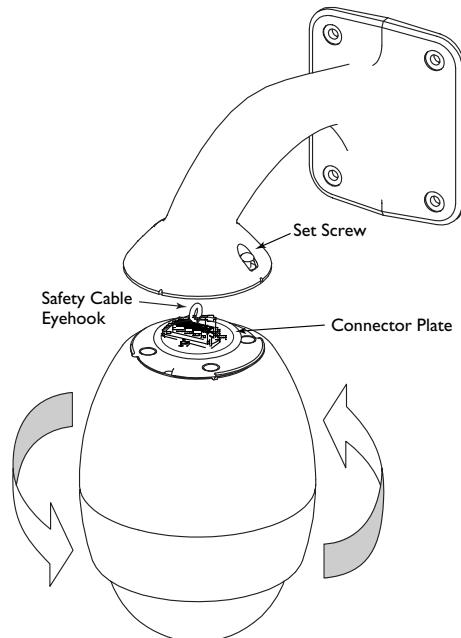

Figure 4: Attaching the Dome
4. Twist 90 degrees in the direction shown in FIGURE 4.
- c. Be sure that the camera alignment is correct. The alignment indicator should be pointing in an upward direction (see FIGURE 4).